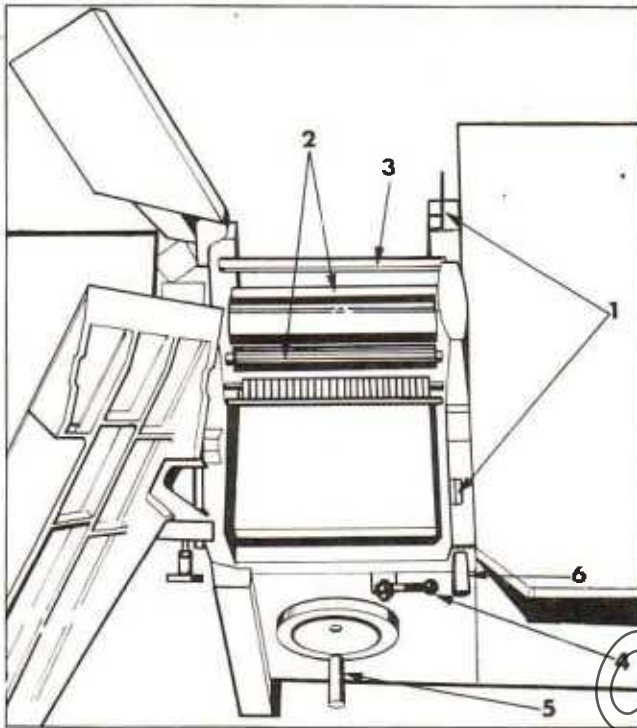

Fig.18.
To prepare for thickening both surface tables must be released by the spring retainers (1) and lifted to the vertical position as Fig.18 below